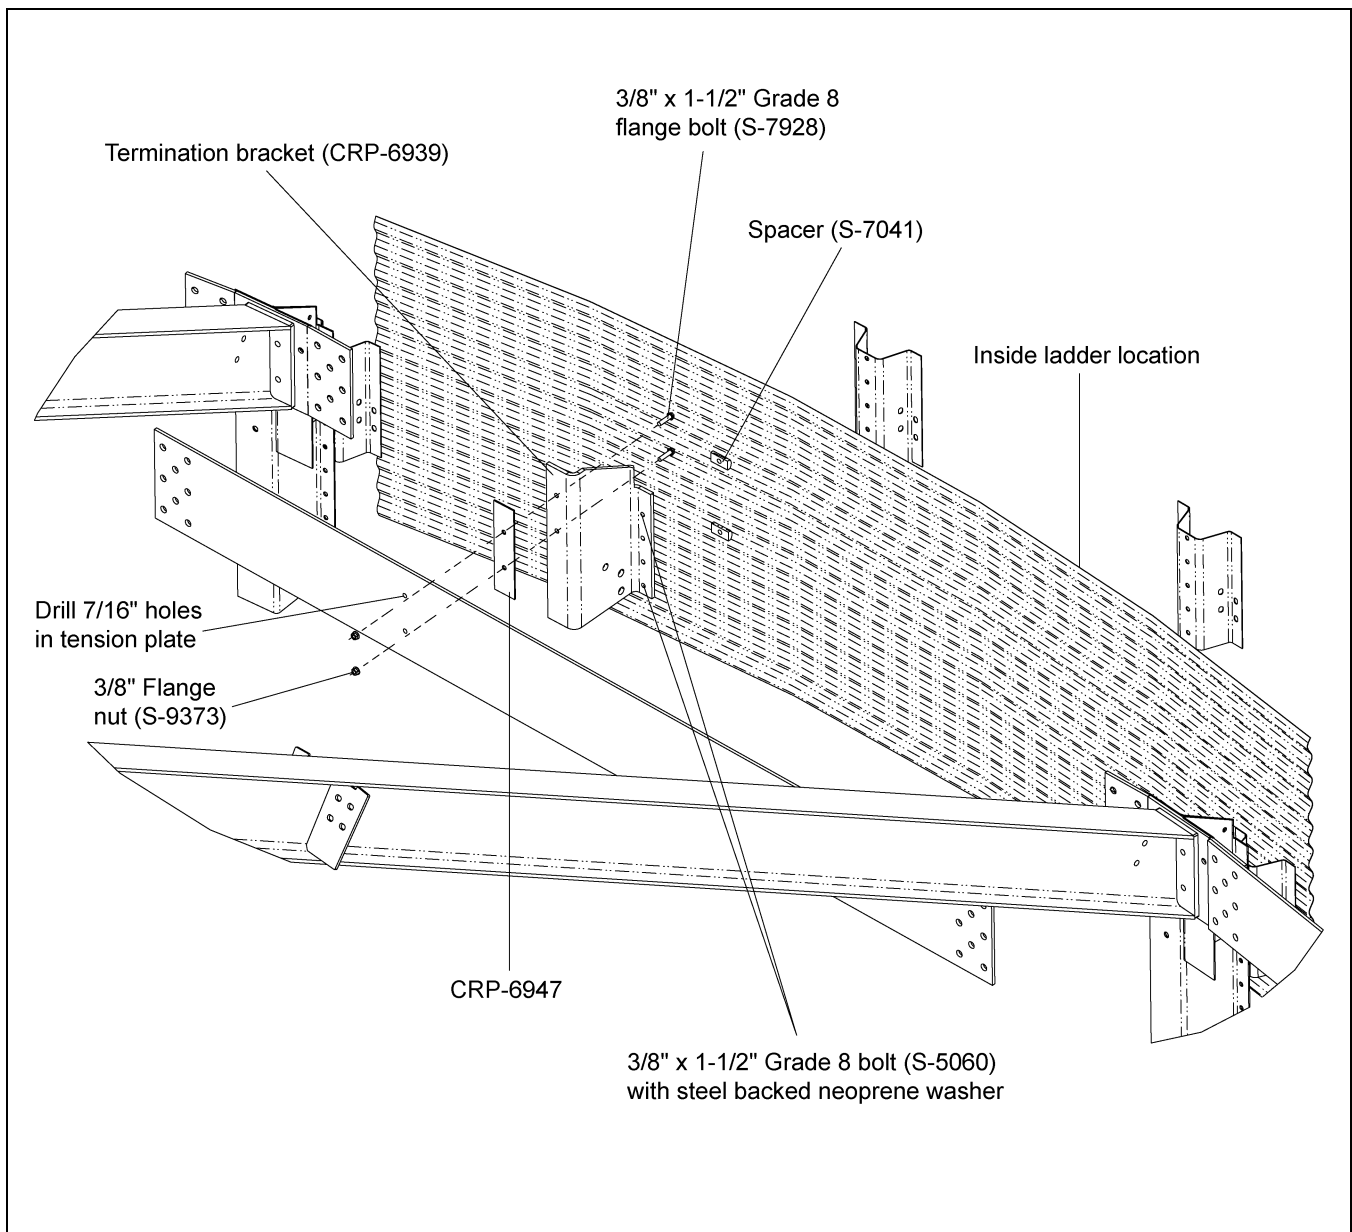

Figure 4C
3. Install CRP-6939 inside of the tank attached to the vertical row of stiffener bolts adjacent to the roof beam stiffener nearest the manway. For a reference, See Figure 4C. Top stiffener bolts are to be removed to install CRP-6939. Replace the top stiffener bolts with two (2) 3/8" x 1-1/2" grade 8 bolts with steel back neoprene washers (S-5060). Use spacer (S-7041) between the sidewall and CRP-6939 as shown in Figure 4C.
4. Use CRP-6939 to locate and drill two (2) 7/16" holes in the tension plate. For a reference, See Figure 4C. Use two (2) 3/8" x 1-1/2" grade 8 flange bolts (S-7928) and flange nuts (S-9373) to attach CRP-6939 to the tension plate at the drilled holes. Use shims (CRP-6947) as necessary to fill the gap between the tension plate and CRP-6939.